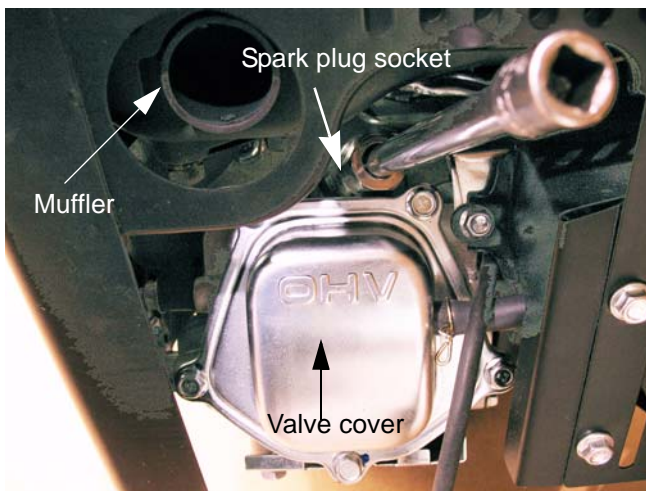

Figure 1.8
3. Remove the spark plug using a 13/16" or 21mm wrench. A flexible coupling or "wobbly" extension may help. See Figure 1.8.